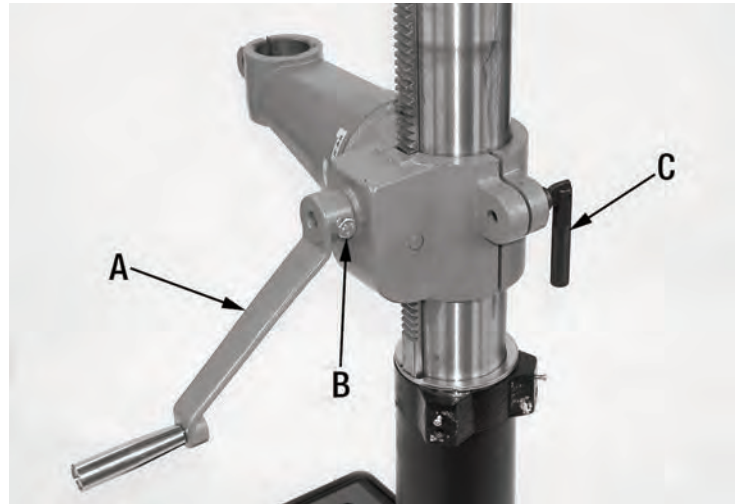

FIGURE 9
- 9) Locate the crank handle (A) Fig.9 and install it on the worm gear shaft on the side of the table support. Tighten the hex. bolt (B) on the flat section of the worm gear shaft.
- 10) Install the table support lock handle (C) Fig.9 to the table support as shown.